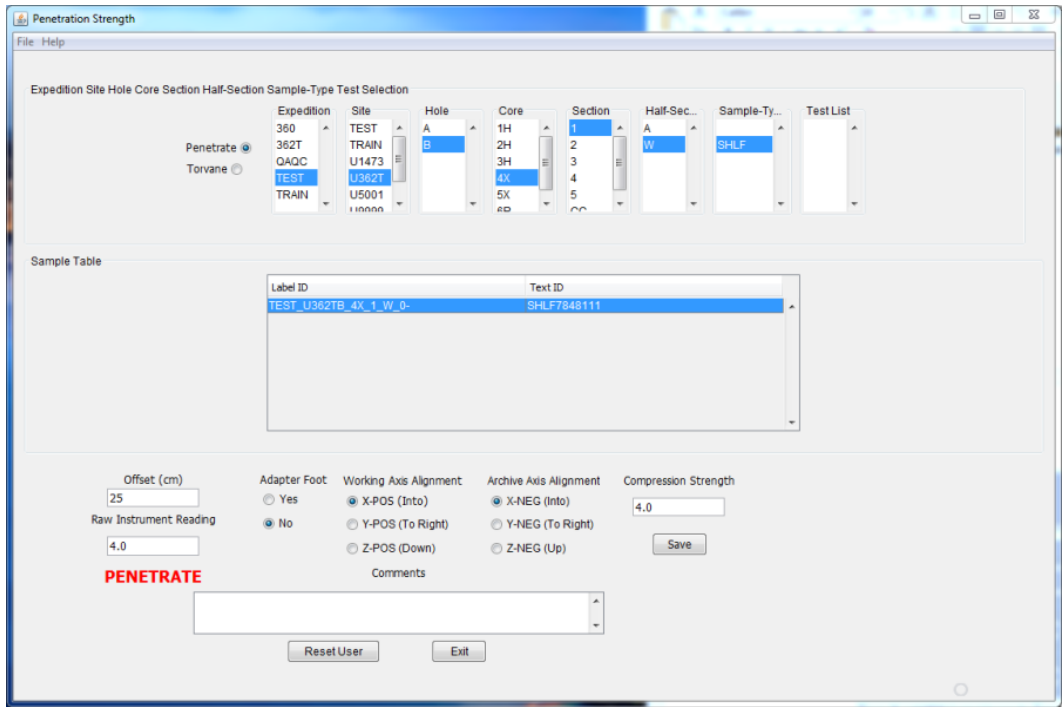

Figure 20. Entering Penetrometer Results.
3. Select Label ID info. (*Figure 20*). Select the sample from the Sample Table underneath the hierarchy search.